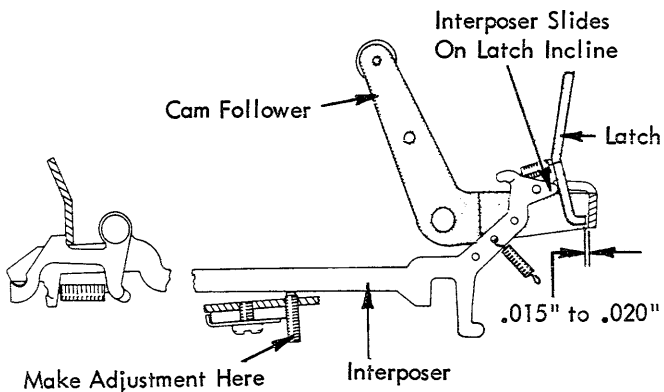

FIGURE 116. Interposer Adjusting Screw
4. Interposer Adjusting Screws - Adjust the interposer adjusting screws so that a front to rear clearance of .015" to .020" exists between all the operational latches and their respective cam followers (Fig. 116).
NOTE: The operational interposer springs should be placed in the center hole at the rear of the interposer (Fig. 116).